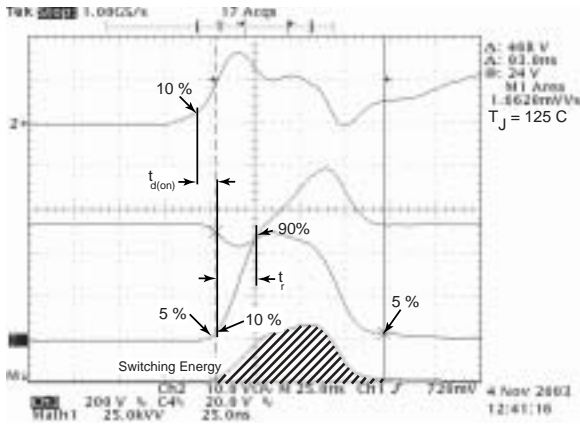

Figure 18, Turn-on Switching Waveforms and Definitions
① Repetitive Rating: Pulse width limited by maximum junction temperature
② Pulse Test: Pulse width < 380 μs , Duty Cycle < 2%
③ See MIL-STD-750 Method 3471
④ Starting $T_J = +25^\circ C$, $L = 2.37mH$, $R_G = 25\Omega$, Peak $I_L = 52A$
⑤ dv/dt numbers reflect the limitations of the test circuit rather than the device itself. $I_S \leq -I_D 52A$ $di/dt \leq 700A/\mu s$ $v_R \leq 800V$ $T_J \leq 150^\circ C$
⑥ E_{on} includes diode reverse recovery. See figures 18, 20.